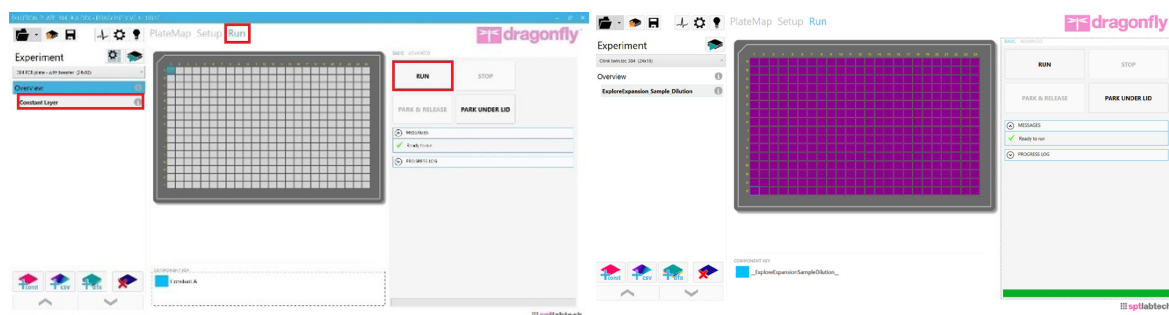

Figure 4. Run tab and Run button (left). Filled Plate (right).
5. Select the Run tab in the Constant layer view of the software (Figure 4), then click RUN to start the program.